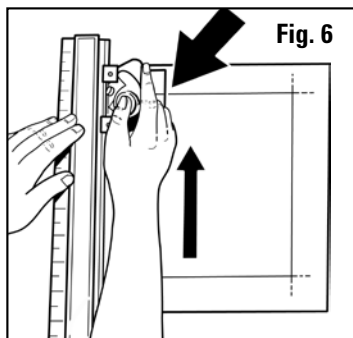

Fig. 6
- Keeping downward pressure on the Blade Holder, slide the Bevel Cutter away from you until the silver line on it intersects with the upper pencil line. Be sure to keep even downward pressure. **Fig. 6**